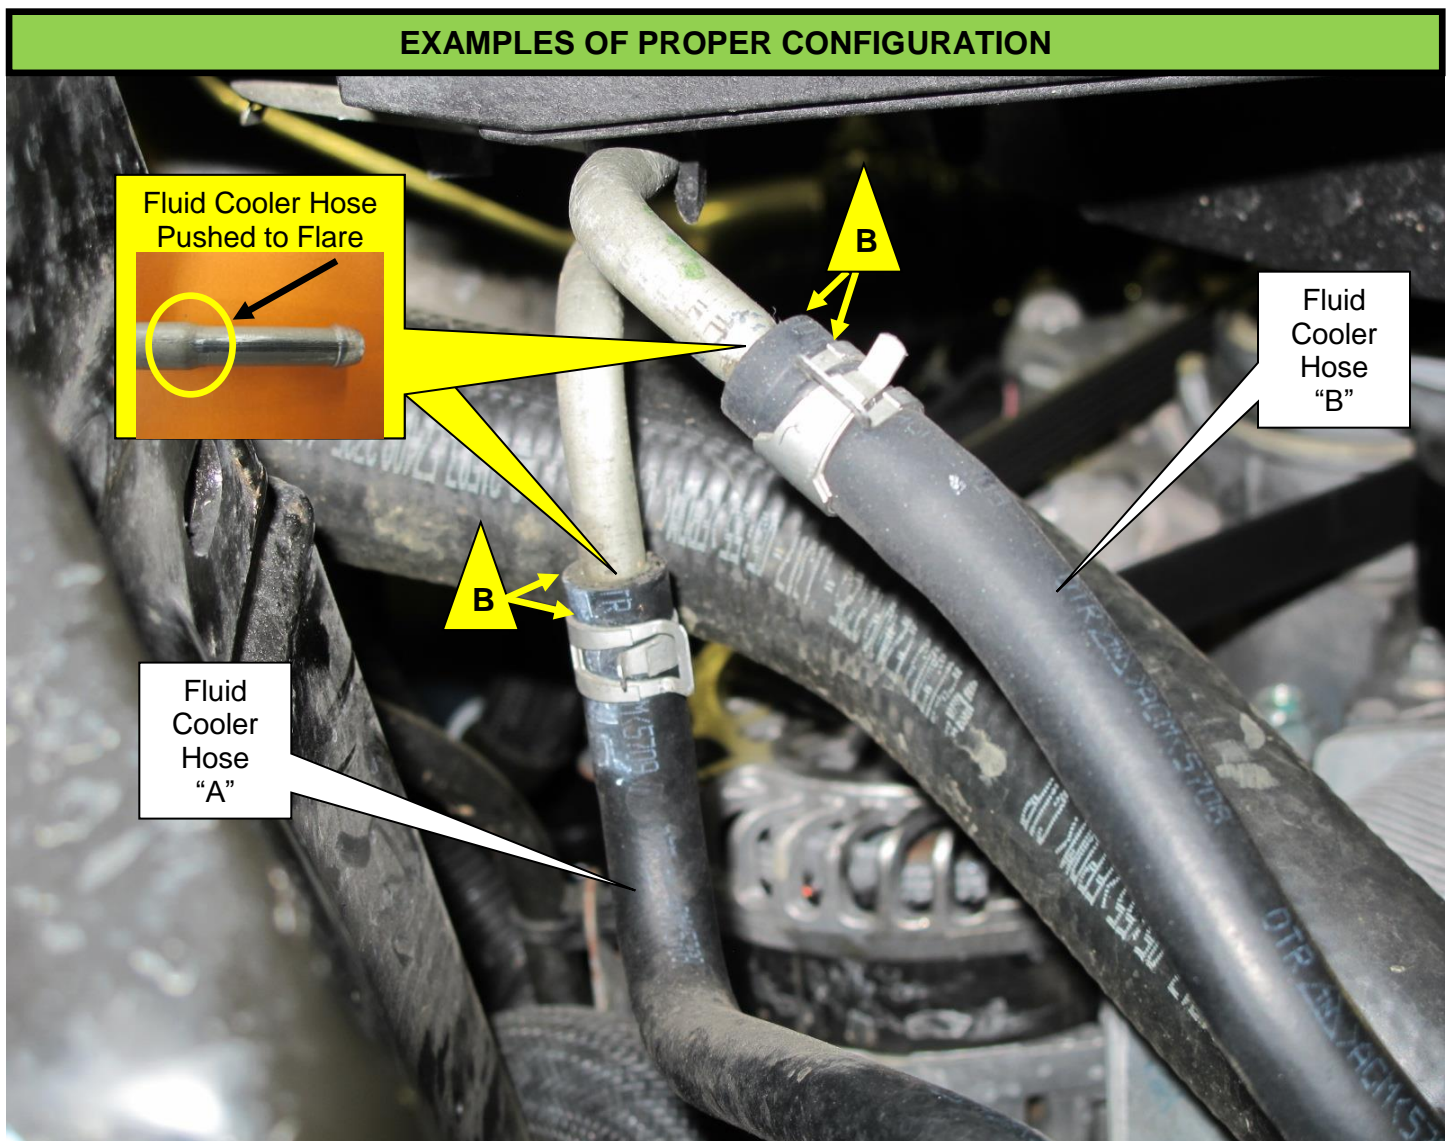

Figure 5
6. Inspect A/T Fluid Cooler Hose "A" and "B" connections for proper configuration (Figure 5).
8. CORRECT ANY HOSES NOT PROPERLY INSTALLED, REFERENCE STEP 6 (FIGURE 5).